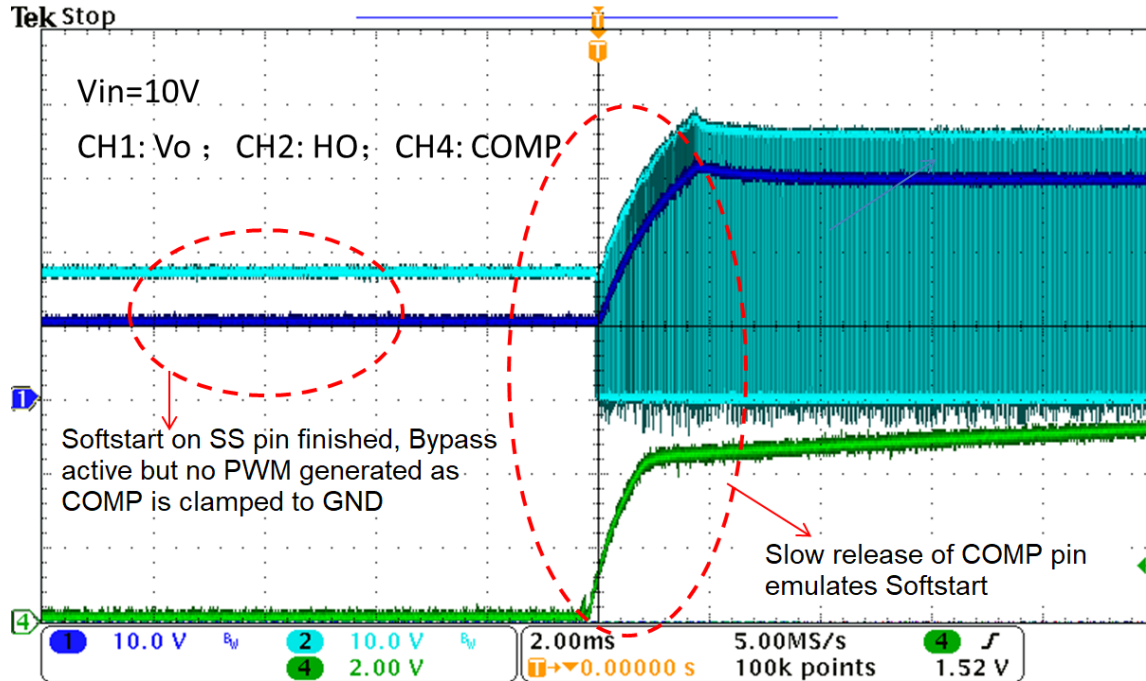

Figure 12. Bypass and reconstructed soft-start waveforms at 10V input
Figure 12 shows the associated test waveforms with an input voltage set at 10V and an output voltage set at 28V. The waveform diagram shows that after the circuit soft-start, there is about 6V driving voltage on the high-side switch VGS (HO-VO), and the Bypass starts to work; then when the COMP pin is slowly raised under the control of the external circuit, the PWM signal starts to appear and there is a good soft-start for the voltage output (VO).